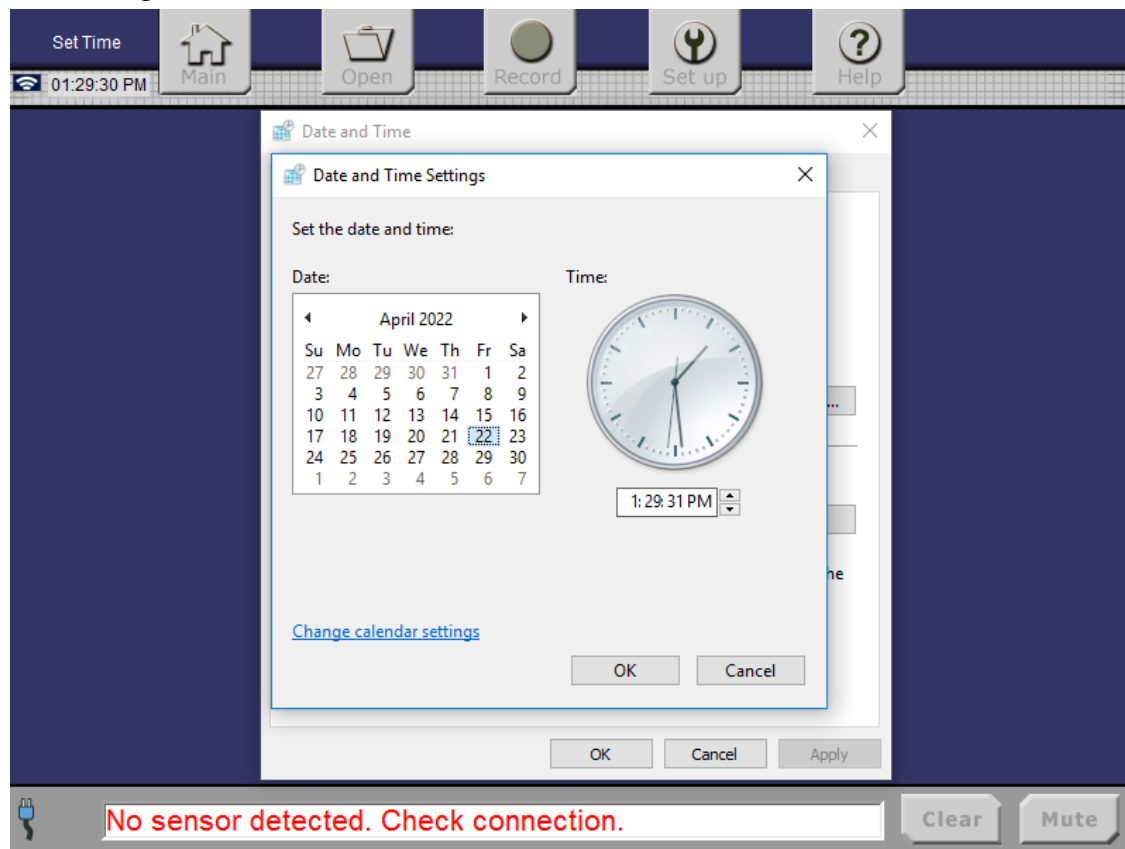

Figure 20. Set Up Date Screen
1. In the **Set Up Current Date and Current Time** screen, press the **Calendar** to set the correct date, as shown in Figure 20.